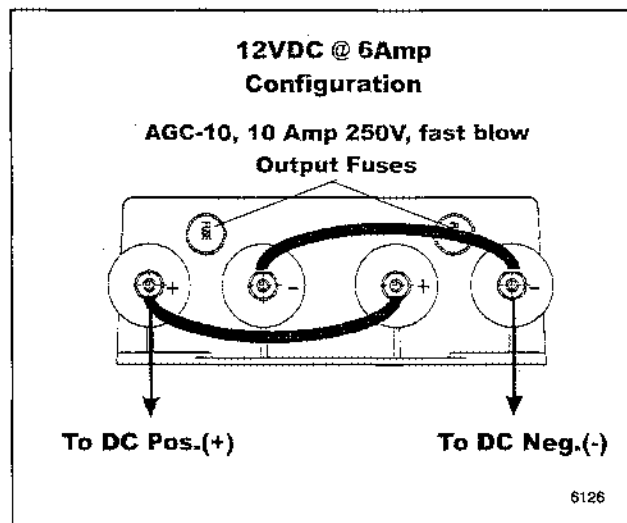

Figure 10-28 12-Volt Battery Charger Connections
- Connect the jumpers as shown in Figure 10-28 for a 12-volt system or Figure 10-29 for a 24-volt system, reconnecting the jumper lead for 24-volt systems as shown. Place the jumper lead terminal between the two flat washers on the battery charger terminal.
- Connect the battery cables as shown in Figure 10-28 for 12 VDC systems or Figure 10-29 for 24 VDC systems.